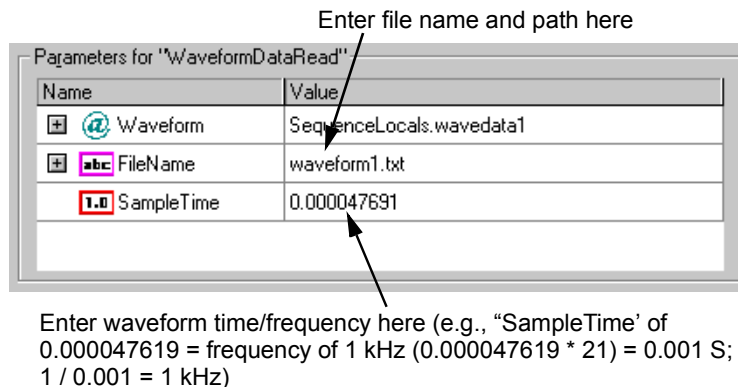

Figure 4-13. Entering File Name and Sample Time
- The “WaveformDataRead” action must be referenced to the data file using the file name. Figure 4-13 shows how the file is referenced.
- The waveform time/frequency must be set by the ‘SampleTime’ parameter in the “WaveformDataRead” action. Figure 4-13 shows how to set the waveform time/frequency using the ‘SampleTime’ parameter.